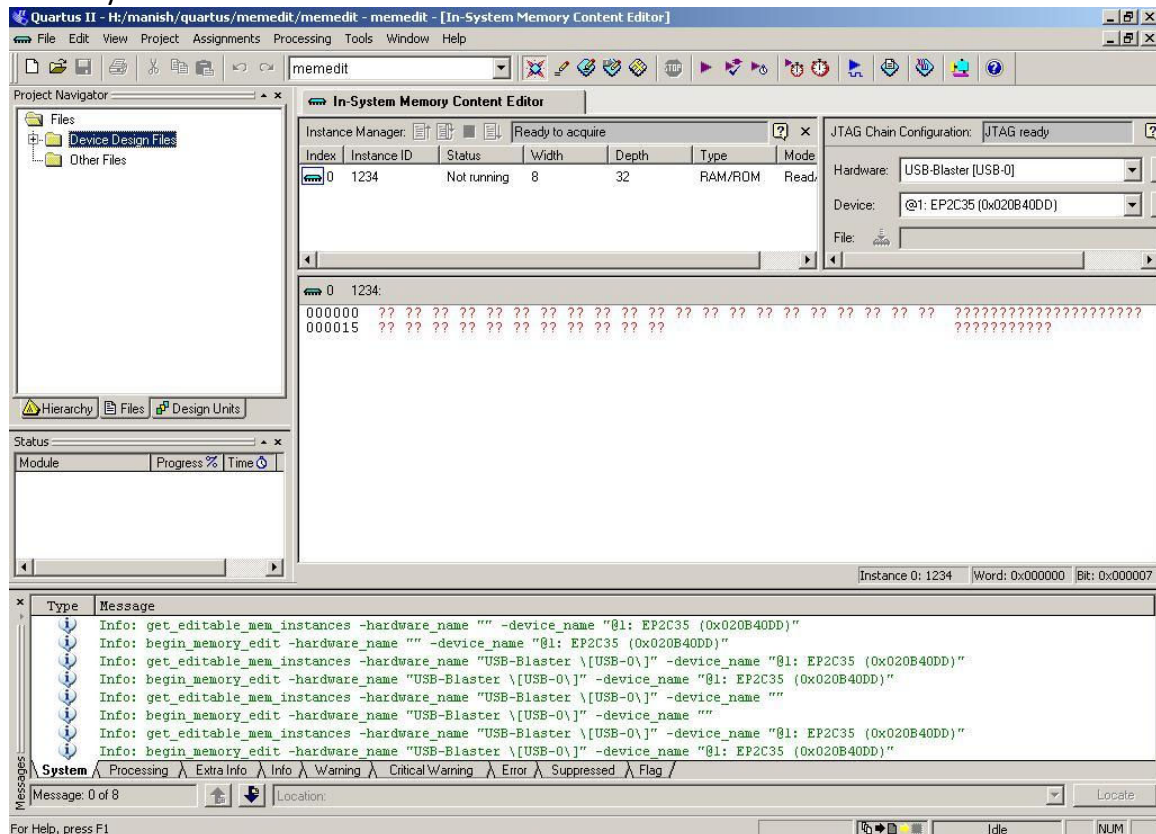

Fig. 9
10. After downloading the design in FPGA, Select Tools > In-System Memory Content Editor, which opens the window in Fig. 9. To specify the connection to your DE2 board click on the Setup button on the right side of the screen. In the window in Figure 9 select the USB-Blaster hardware, and then close the Hardware Setup dialog.